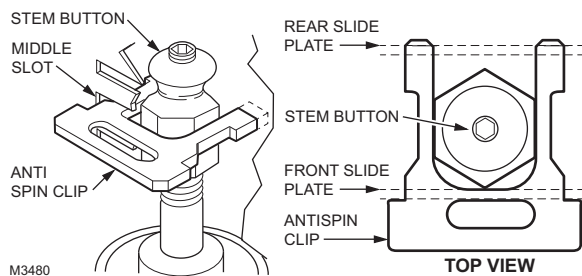

Fig. 2. Installing anti-spin clip
1. Position the stem and stem button so that the sides are parallel to the entry of the anti-spin clip (Fig. 2). This will allow using the clip without disassembling and turning the stem and button as described in step 5.